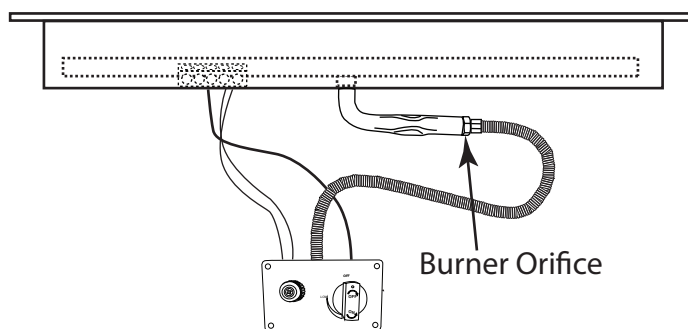

Fig. 1 Shows main burner orifice location.
Step 4: Remove the $\frac{3}{8}$ " flex connector from the main burner orifice. See Fig. 1 for reference.